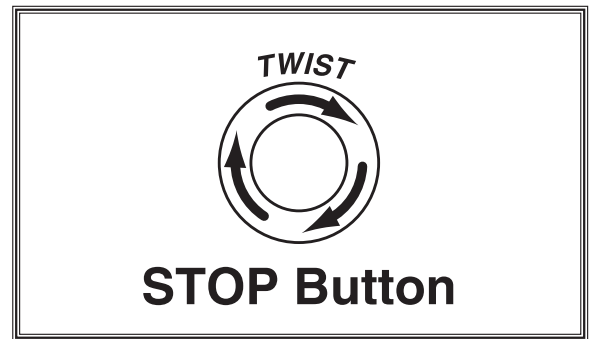

Figure 33. Resetting Emergency Stop button.
5. Twist Emergency Stop button clockwise until it springs out (see **Figure 33**). This resets switch so machine can start.